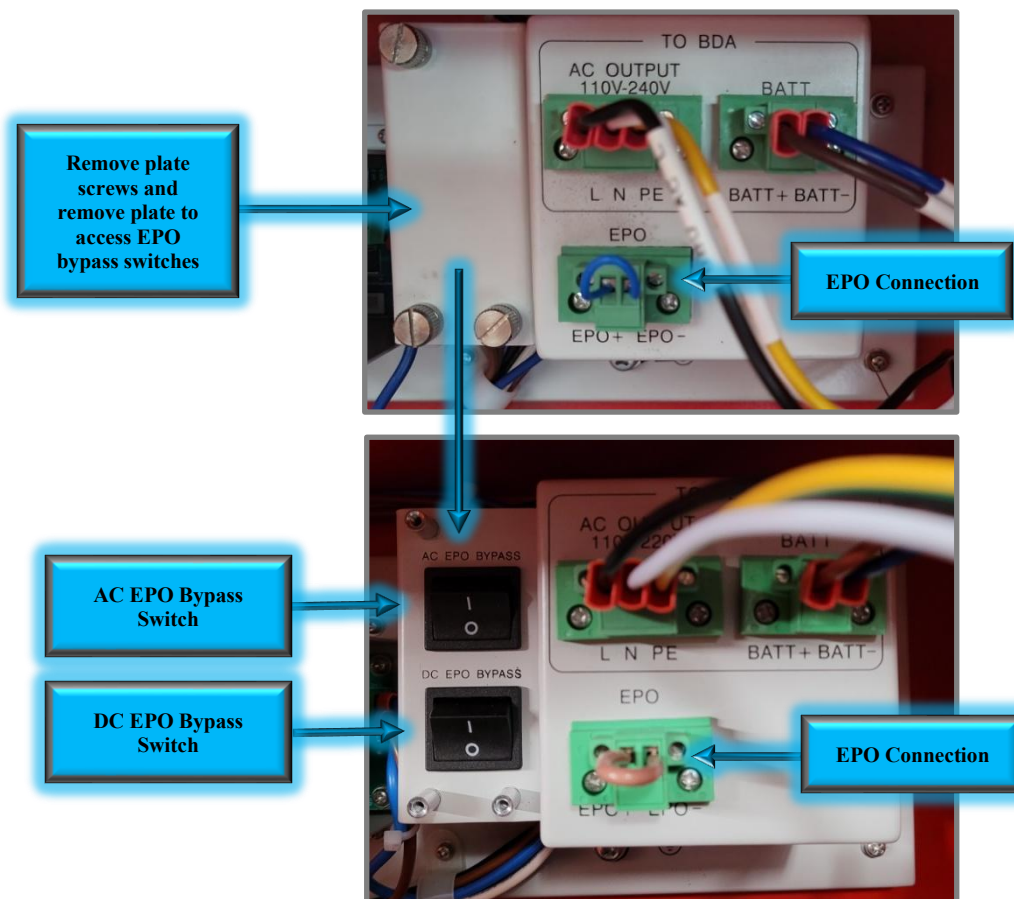
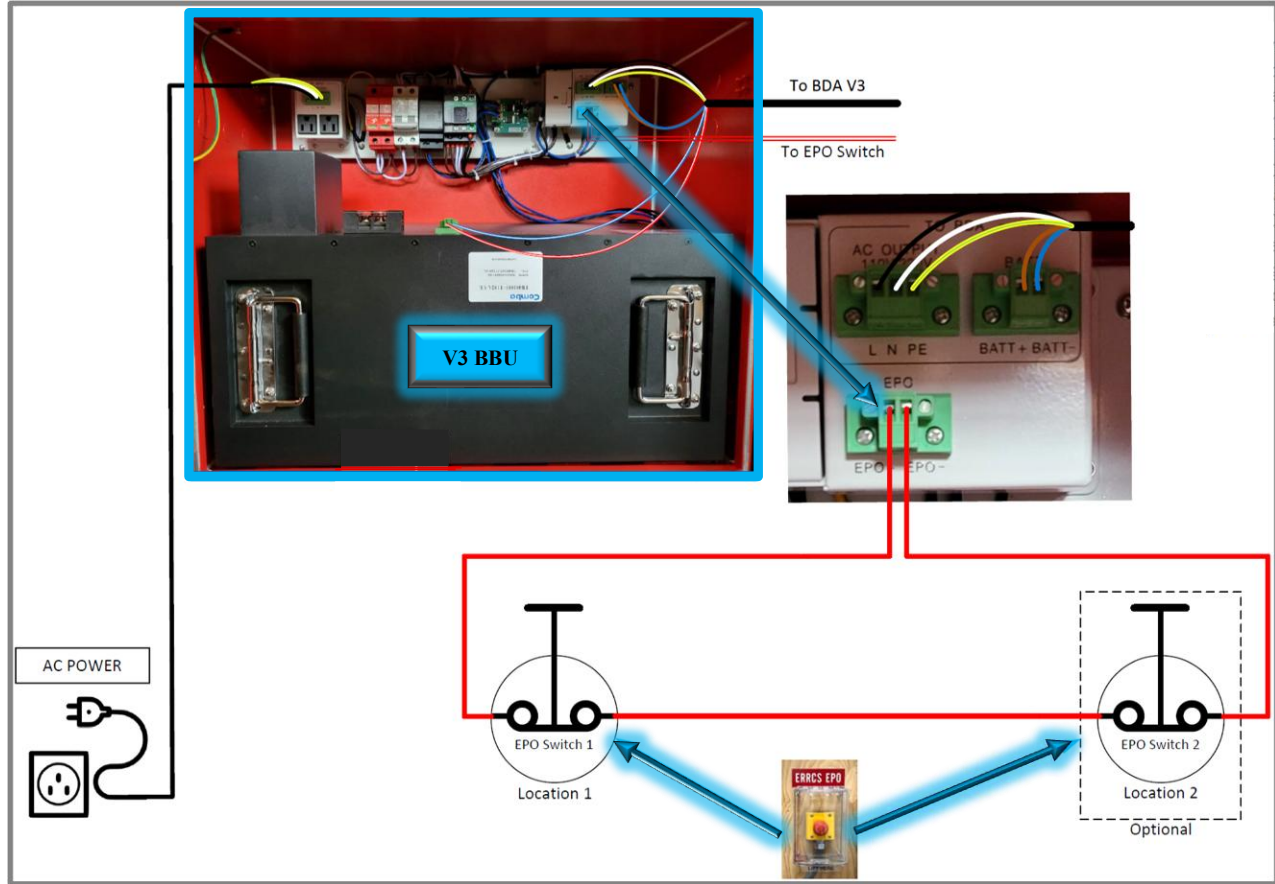

Figure 51: V3 BBU EPO Switch Connection
Figure 52: EPO Switch Wiring Diagram
- The EPO connector should be either connected to an external EPO (Require **Normally Closed EPO**) or leave it shorted, as shown in Figure 51. If using an EPO switch connect it now. The EPO function, by default, will disconnect both Main AC Input Power as well as disconnect the Backup Battery Power. The user can access the EPO bypass switches by removing the 3 screws and removing the cover plate. The user can bypass either the AC EPO disconnect or the DC EPO disconnect function by turning the corresponding switch ON. See the following EPO Wiring Diagram in Figure 52 for more details.